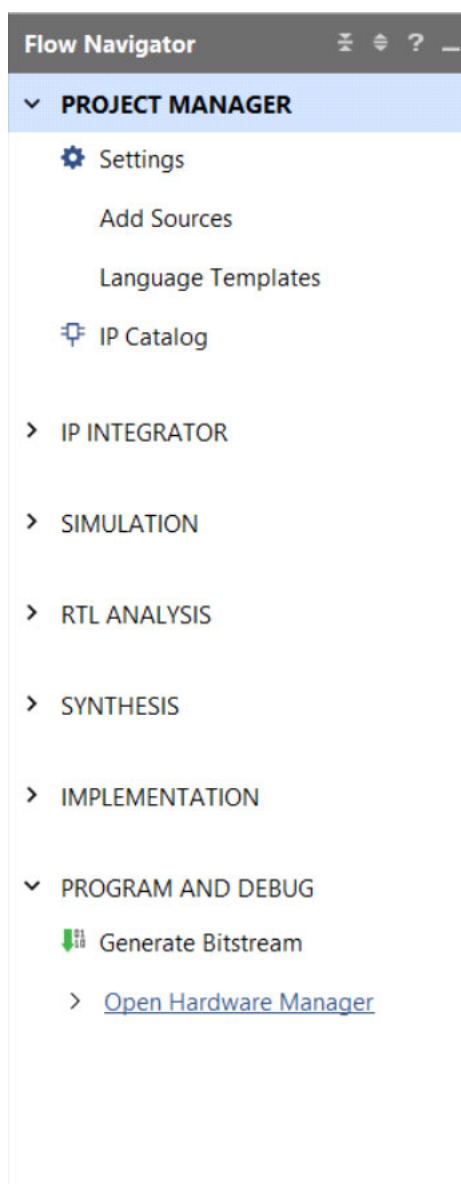

Figure 10: **Open Hardware Manager**
2. Open the Vivado tools Hardware Manager by selecting **Open Hardware Manager** under the Program and Debug flow as show in Figure 10. Alternatively, select **Flow > Open Hardware Manger**.